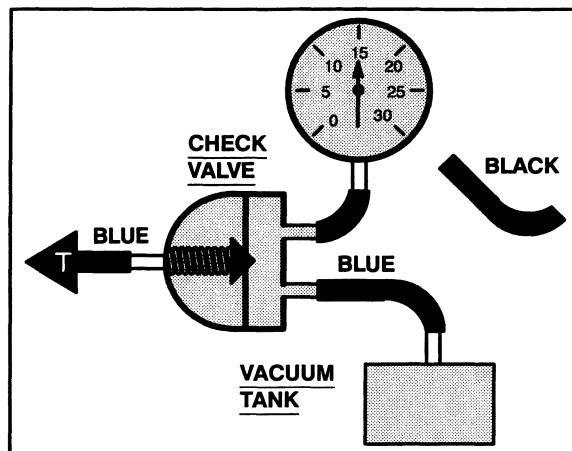

Figure 1 – System Supply Test
1. Connect Vacuum Tester to system side of Check Valve (Figure 1).